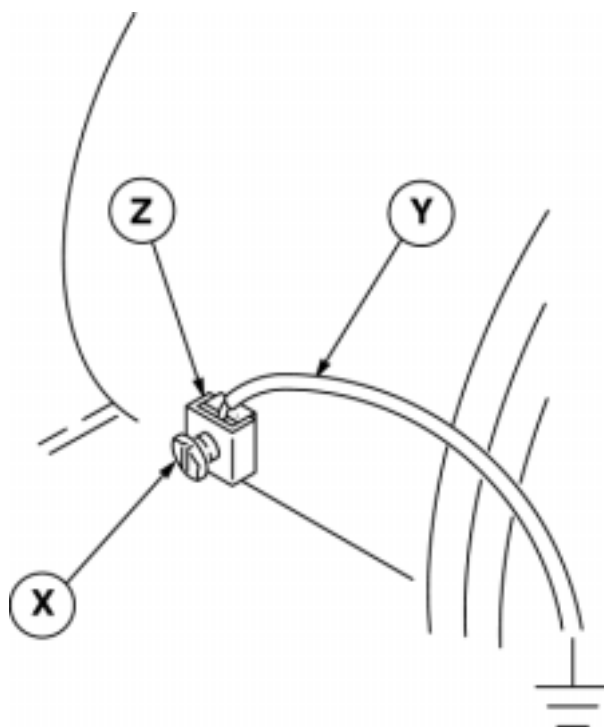

Figure 4. Grounding
- **Pump:** use a ground wire and clamp. See Figure 4. Loosen the grounding screw (X). Insert one end of a 12 ga (1.5 mm2) minimum ground wire (Y) under the clamp (Z) and tighten the screw securely. Connect the other end of the wire to a true earth ground. For a ground wire and clamp, order Part No. 222011.